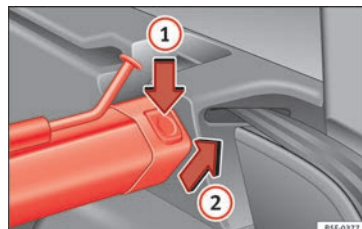

Fig. 125 In the luggage compartment: removing the net partition.
- Press the left or right release catch » Fig. 125 ①.
- Remove the casing from the support in the direction of the arrow » Fig. 125 ②.
- Press the casing into the left and right supports in the opposite direction to the arrow » Fig. 125 ② until it engages.